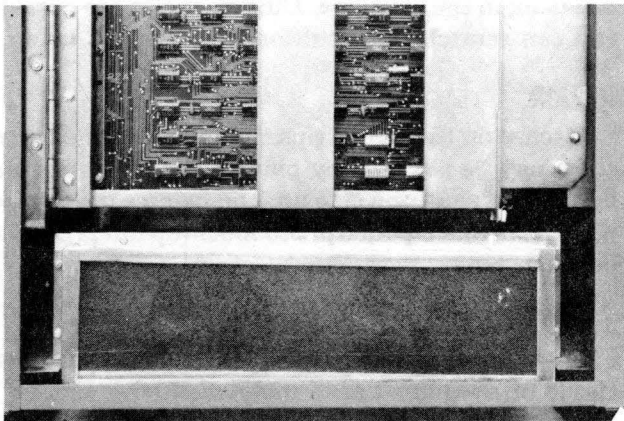

Figure 3-1 Location Of Filter
3. Slide filter out of holder. (See Figure 3-1)